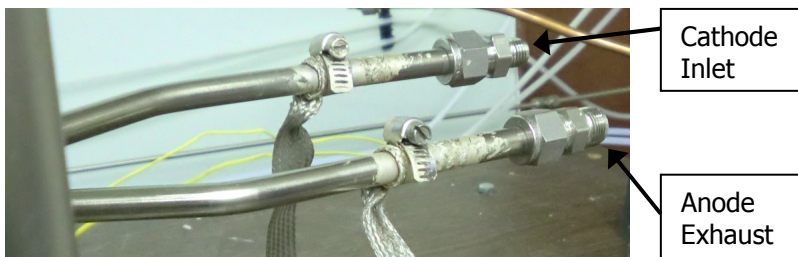

Figure 1
- best alignment. Apply fittings to the anode and cathode inlet tubes, anode exhaust tube and cathode exhaust tube (optional if using air). This test fixture performs best in a counter flow configuration – the anode and cathode gas enter the manifold on opposite sides, crossing each other as they traverse the cell. To achieve this, the tubing should be set up so that the cathode inlet is on the same side as the anode exhaust and vice versa (Figure 1).